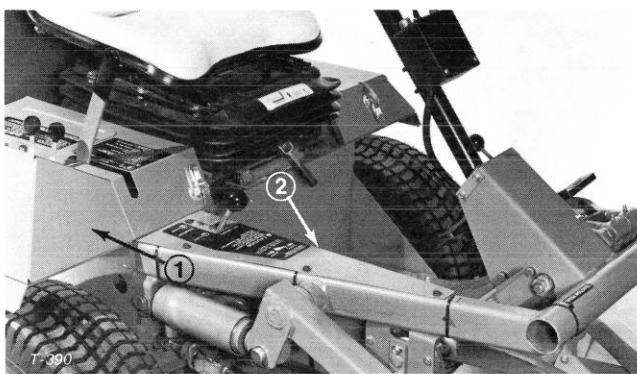

Figure 38
8. Loop excess portion of harness under control panel. Install instrument panel cover and foot rest side plate (Fig. 38).